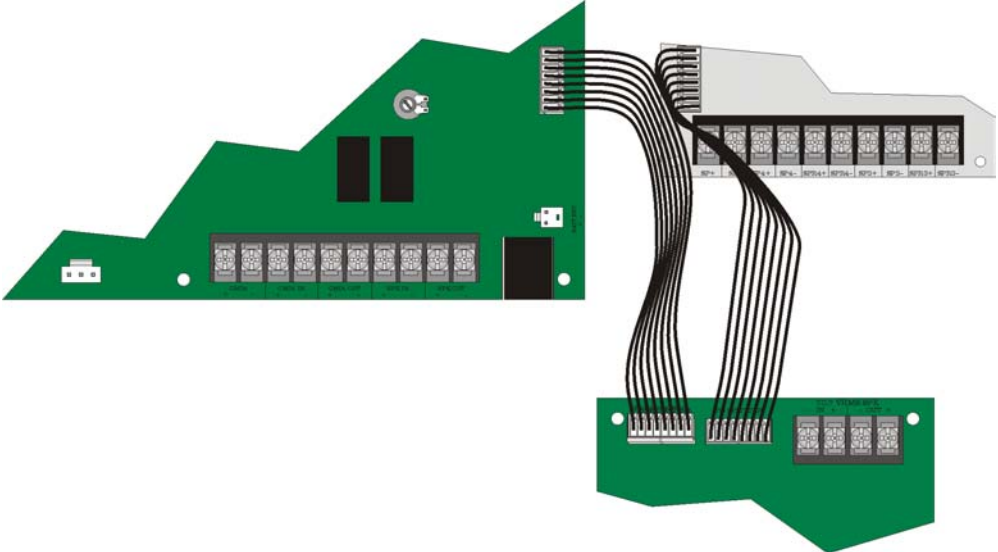

Figure 7-4 Wire Harness Connections for Splitter and Main Control
- 2. Connect the other harness from the SKE-V70 connector marked "TO SPLITTER" to the connector on the 4 or 6 zone splitter as shown in Figure 7-4.